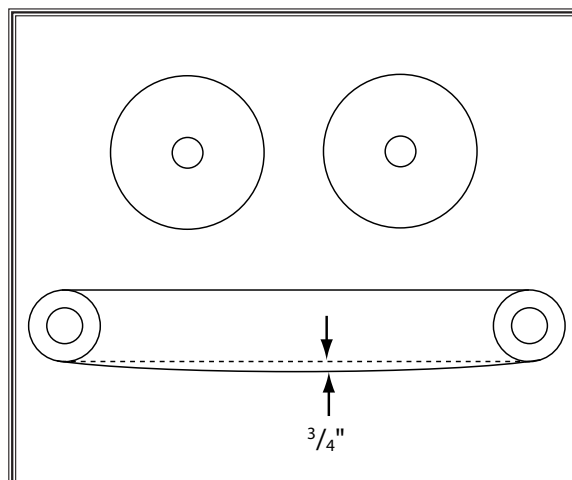

Figure 48. Conveyor belt hanging gap.
2. Measure the distance from the frame to the conveyor or roller on both sides. Turn the adjustment bolts so the distance between the frame and conveyor roller is identical on both sides. Do not overtighten the conveyor. Your goal is to reach a $\frac{3}{4}$ " gap between the underside of the conveyor and the belt, as shown in **Figure 48**.